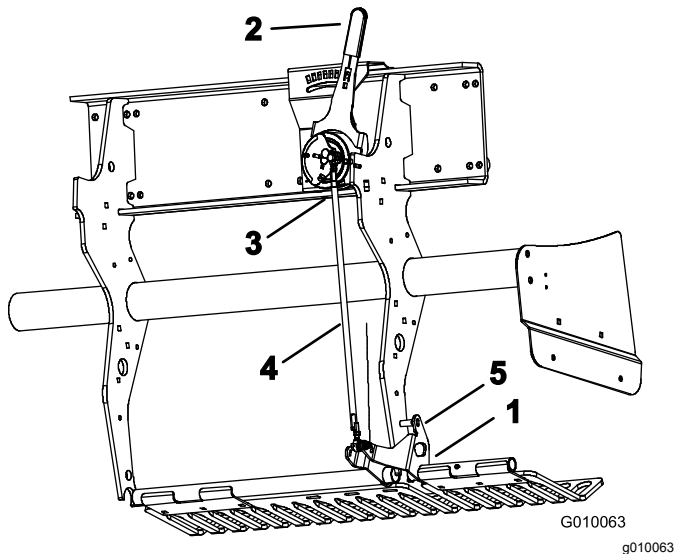

Figure 59
2. Rotate the left turf guard mounting bracket (Figure 59) up until you can insert a locking pin, such as an 8 mm (5/16 in) drill rod or bolt, between the bracket and the depth setting tube welded to the frame.
3. Move the tine depth lever (Figure 59) to the H setting (deepest).
4. Disconnect the outboard ball switch (Figure 59) from the wire harness (Head–Low switch).
5. Loosen the jam nuts (left and right) on the depth adjustment tie rod (Figure 59).